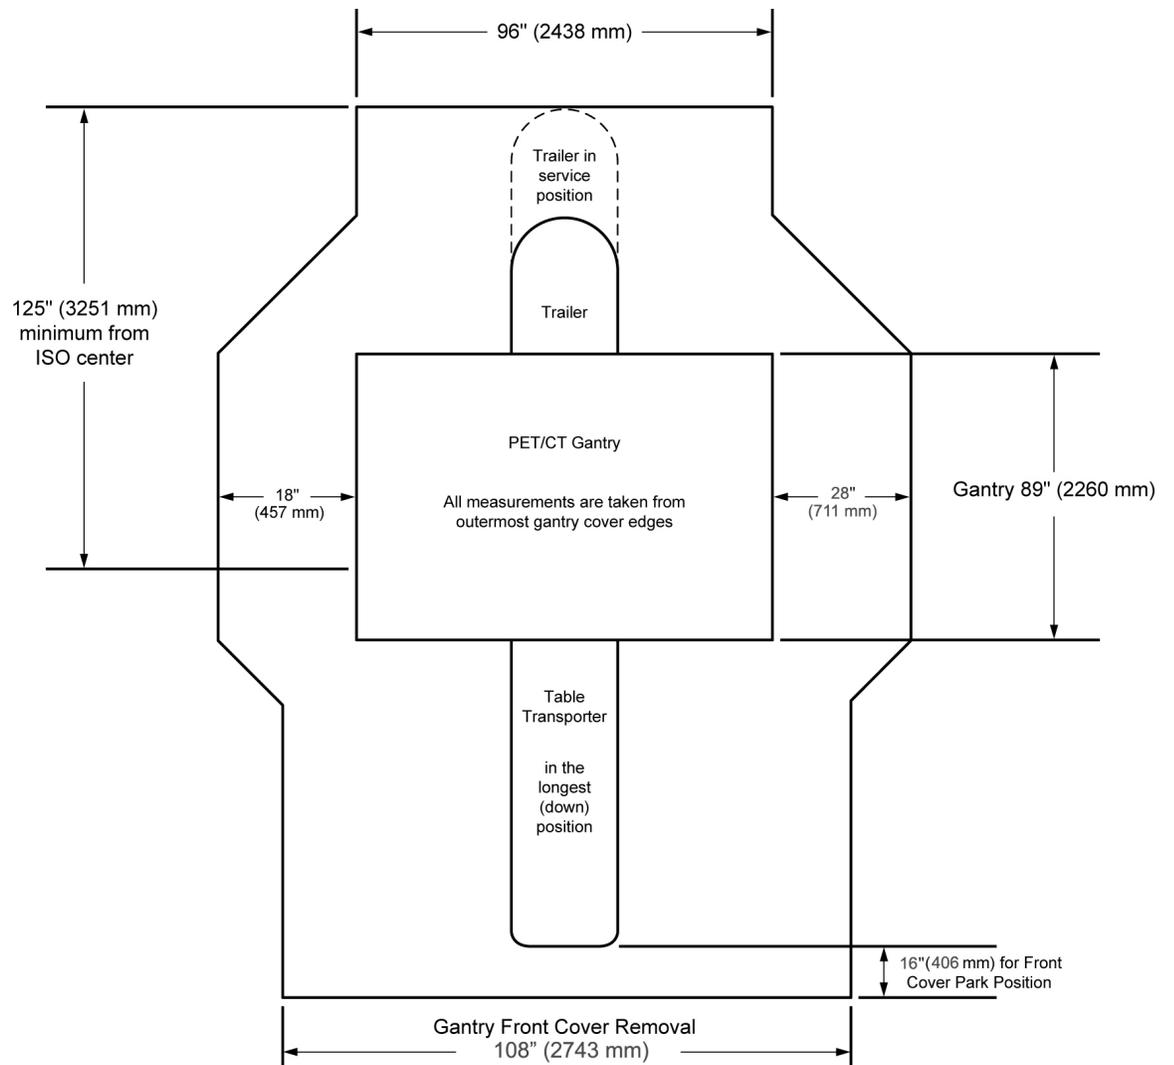

Figure 5-1 Cover Management and FRU Replacement Clearances
Note: When Calculating service clearances, refer to Figure 5-1 for all service clearance needs.
- Gantry front cover removal requires the use of the tilting cover dollies and a minimum clearance space of 2743 mm (108 in.) to maneuver the cover, as illustrated in Figure 5-1. The dollies allow the service engineer to separate the cover from the gantry, tilt it 90 degrees, roll it to the foot end of the table, and then tilt it an additional 90 degrees, so that it is upside-down relative to its normal system-mounted condition. After removal, the service engineer must then move the gantry front cover to a position that satisfies the minimum regulatory clearances.
- The gantry rear cover with service dollies installed requires a width of 2388 mm (94 in.) and a depth of 584 mm (23 in.) of clearance for removal. The design center should calculate sufficient space to allow the service engineer to move the cover either straight back or to one side of the table to satisfy the minimum service clearances shown in Figure 5-1, as the rear cover cannot violate the workspace on the rear, or on either side of the gantry. The PMI and customer should discuss this consideration and make the necessary provisions.